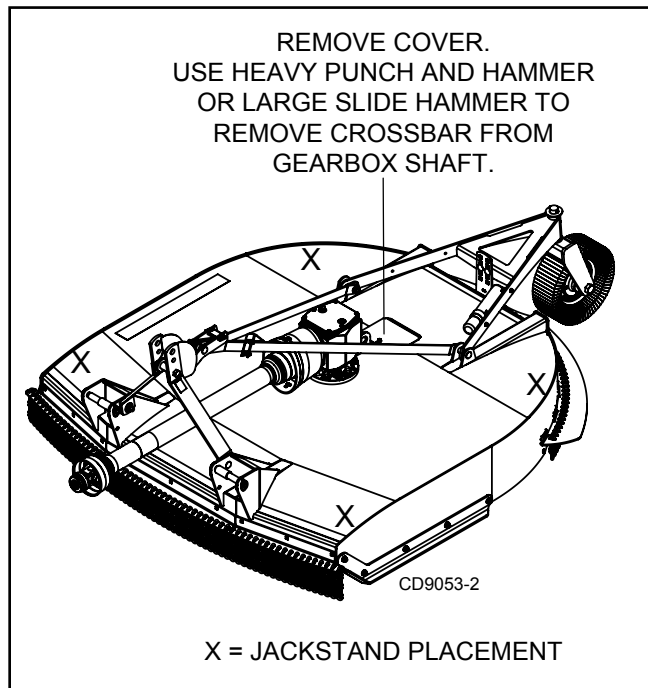

Figure 20. Crossbar Removal
4. Support cutter as shown in Figure 20.